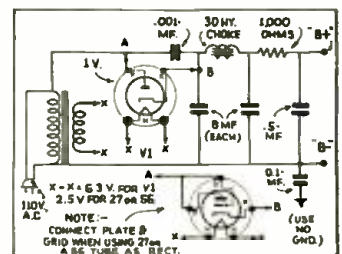

Fig. 8. A.C.-D.C. set change.
**USING FILAMENT TRANSFORMER.** A small transformer used instead of a series resistor in A.C.-D.C. sets has many advantages. The tubes heat much more quickly and the total current drain is less than half. The new circuit appears in Fig. 8. The transformer may be very small, since the power needed is only around 15 W. for the filament circuit. Of course with this change, the set will only operate on A.C. Figure 8 shows how a complete